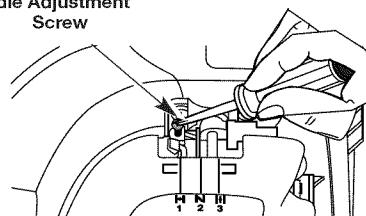

Fig. 25
The idle speed of the engine is adjustable. An idle adjustment screw is between the air filter cover and the engine starter housing (Fig. 25).
2. Release the throttle trigger and let the engine idle. If the engine stops, insert a small phillips in between the Air Filter Cover and the Engine Cover (Fig. 25). Turn the idle speed screw in, clockwise, 1/8 of a turn at a time (as needed) until the engine idles smoothly.